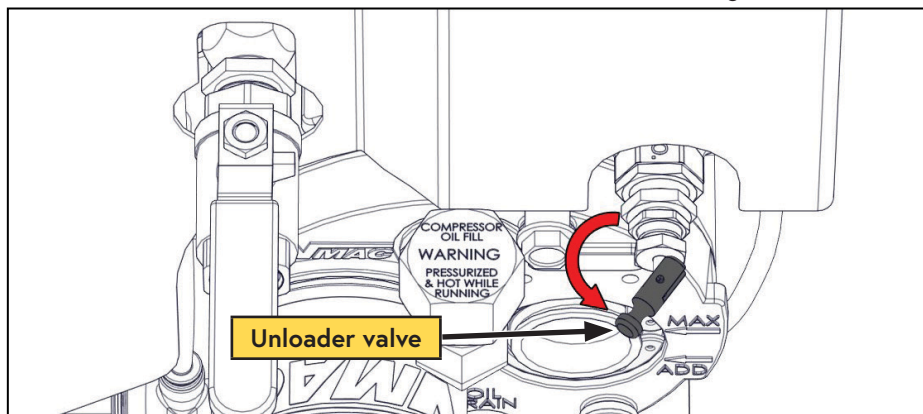

Figure 25 — Unloader valve
- ☐ Ensure the unloader valve remains actuated (under tension) (Figure 25).